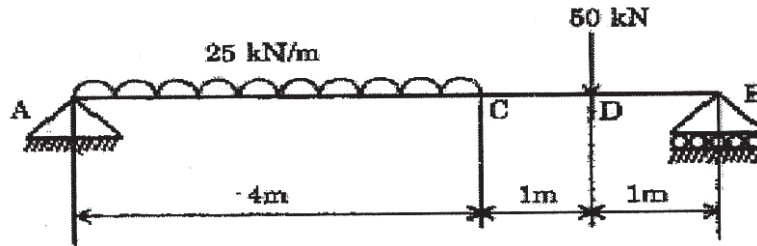

Fig. 2
- (b) Draw SFD and BMD for the beam shown in Fig 2. Also find point of contra-flexure if any. [6]